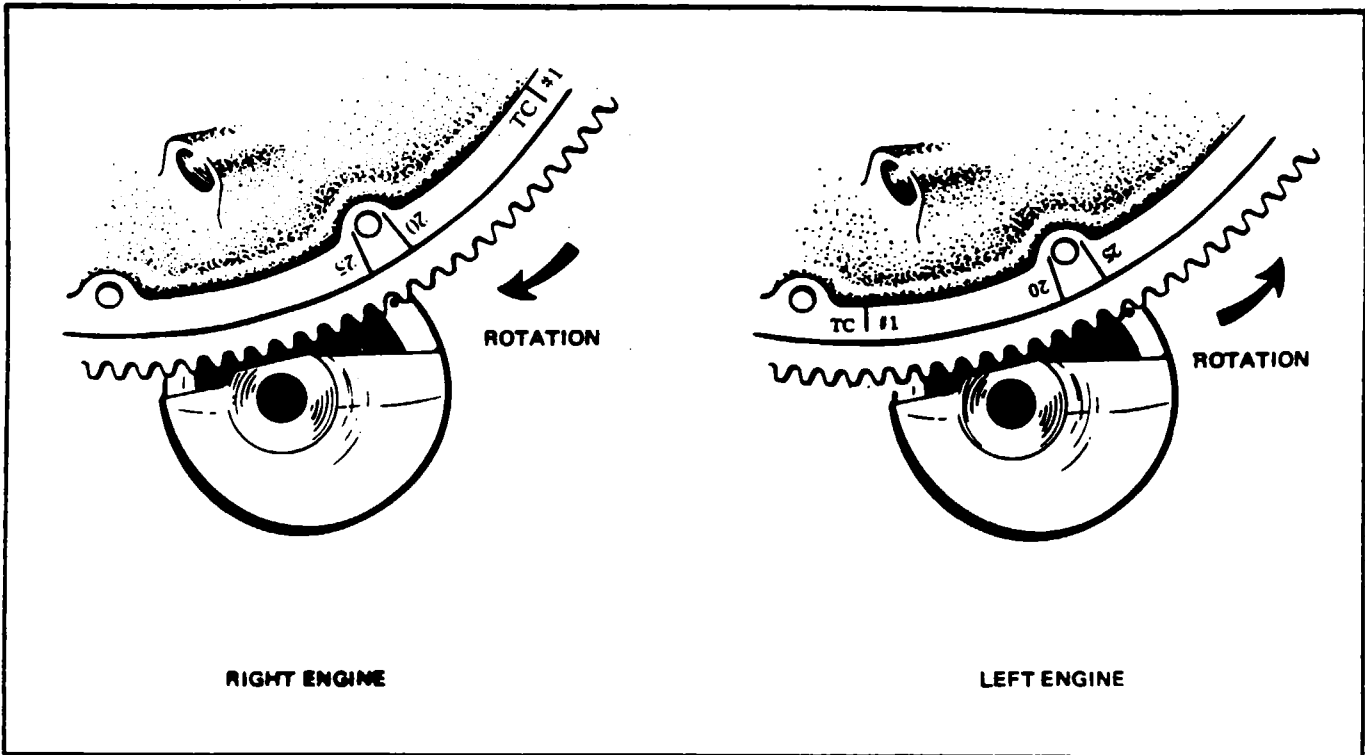

Figure 8-14. Engine Timing Marks
- b. Continue turning the crankshaft until the 20° advance timing mark is in alignment with the small hole located on the top face of the starter housing at the two o'clock position. (Refer to Figure 8-14.)